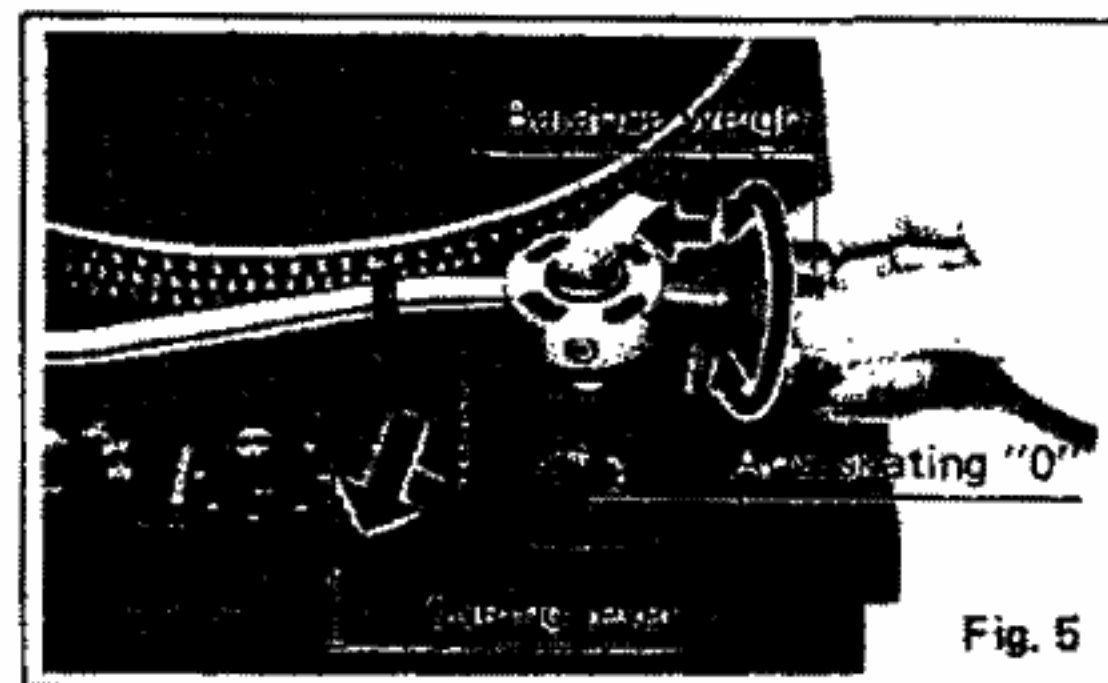
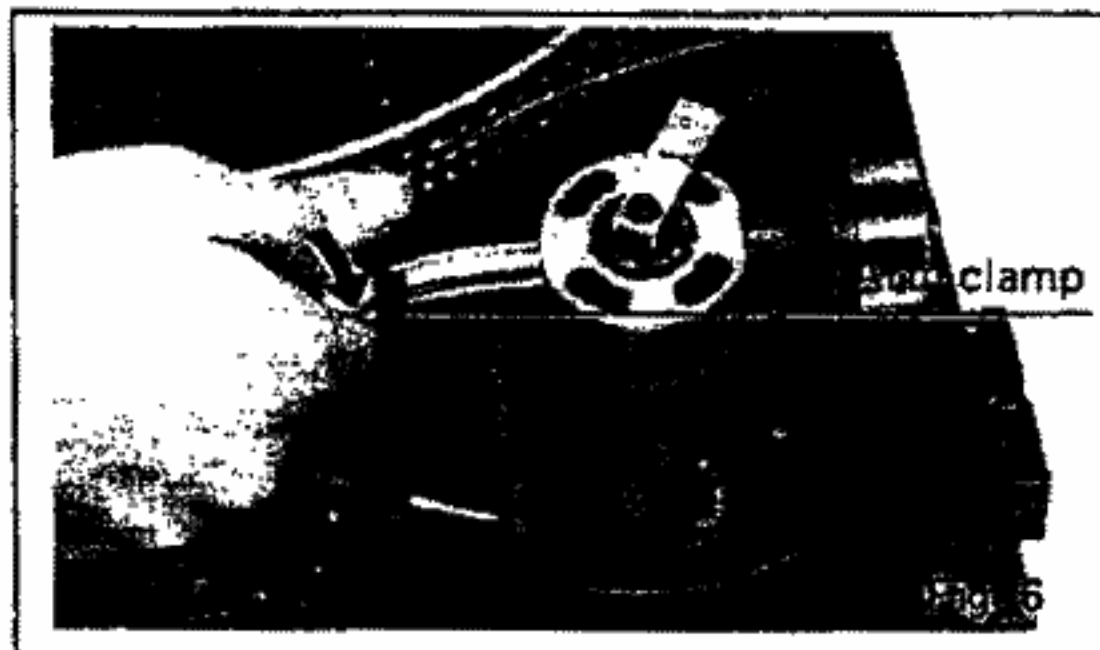
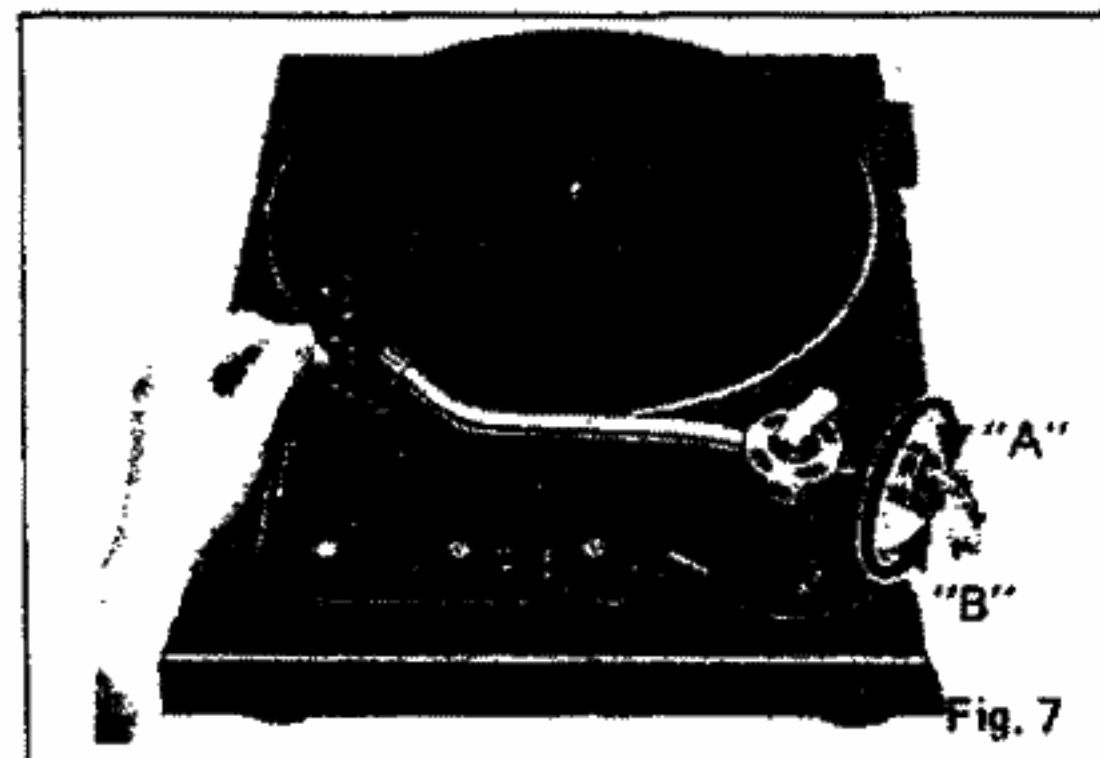

Fig. 5
Fig. 6
Fig. 7
- 1) Make sure that the cueing lever is in the lowered position as shown in Fig. 5.
- 3) Make sure that the anti-skating control knob is at "0" position. (See Fig. 5).
- ① Insert the balance weight onto the rear shaft of the tonearm. (See Fig. 5).
- ② Remove the stylus cover, if your cartridge has one.
- ③ Release the arm clamp (See Fig. 6) and lift the tonearm from the arm rest to free the tonearm. (See Fig. 7)
If the tonearm is urged to return to the arm rest when the tone-arm is held in a free state as in Fig. 7, rotate the turntable platter clockwise about 10 times. This is necessary because in rare cases the automatic mechanism may have engaged the tonearm gear or moved out of its normal position during transportation.
- ④ Turn the entire balance weight clockwise (indicated by the arrow "A") or counterclockwise (indicated by the arrow "B") until the tonearm is approximately balanced horizontally. (See Figs. 7 and 8).